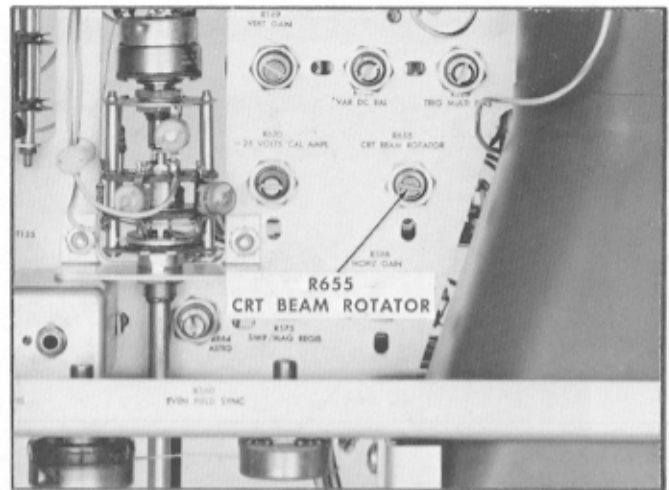

Fig. 6-7. Location of CRT BEAM ROTATOR adjustment.
- c. Adjust the CRT BEAM ROTATOR control (R655; see Fig. 6-7) so the flat bottom of the calibrator square waves coincides with the graticule line.